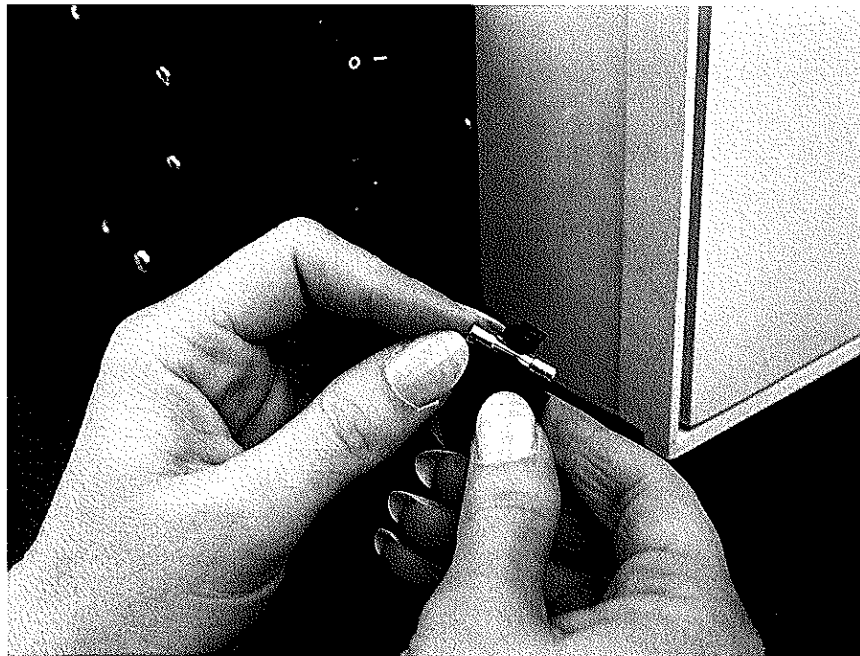

Figure 8-2
3. Remove the fuse from the holder (Figure 8-2) and discard if blown.